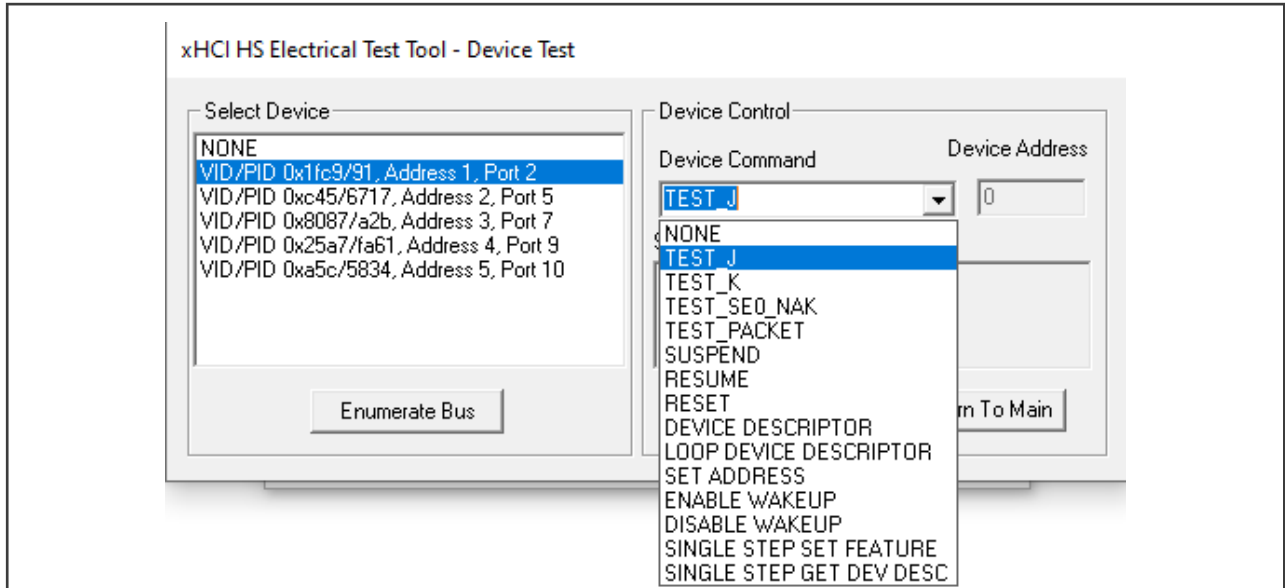

Figure 30. HSETT TEST\_J, TEST\_K and Test\_SE0\_NAK command
- Select **TEST\_J** from the **Device Command** drop-down menu, as shown in Figure 30. To place the device into `TEST_J` test mode, click **EXECUTE** once.